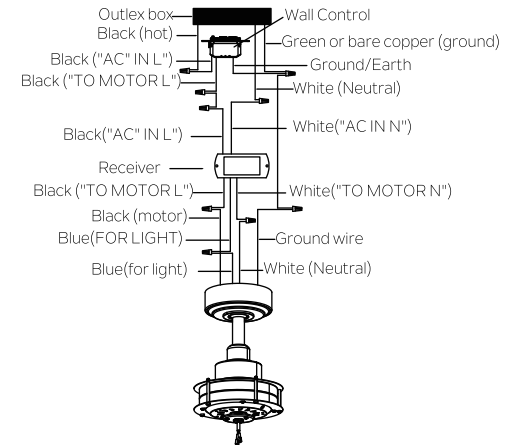

Fig. 13
Step 2. Motor to Receiver Electrical Connections: Connect the BLACK wire from the fan to BLACK wire marked "TO MOTOR L" from the receiver. Connect the WHITE wire from the fan to the WHITE wire marked "TO MOTOR N" from the receiver. Connect the BLUE wire from the fan to the BLUE wire marked "FOR LIGHT" from the receiver. Secure all the wire connections with the plastic wire connectors provided. (Fig. 13)
Step 3. Remote Receiver to Outlet Box Electrical Connections: Connect the BLACK (hot) wire from the ceiling to the BLACK wire marked "AC IN L" from the wall control . Connect the WHITE (Neutral) wire from the ceiling to the WHITE wire marked " AC IN N" from the receiver. Connect the BLACK (To Motor L) wire from the wall control to the BLACK wire marked " AC IN L" from the receiver. Secure the wire connections with the plastic wire connectors provided .(Fig. 13)
Step 4. If your outlet box has a ground wire (green or bare copper) connect it to the fan ground wires : otherwise connect the fan ground wire to the mounting bracket. Secure the wire connection with a plastic connectors provided. After connecting the wires, spread them apart so that the green and white wires are on one side of the outlet box and black and blue wires are on the other side. (Fig. 13)